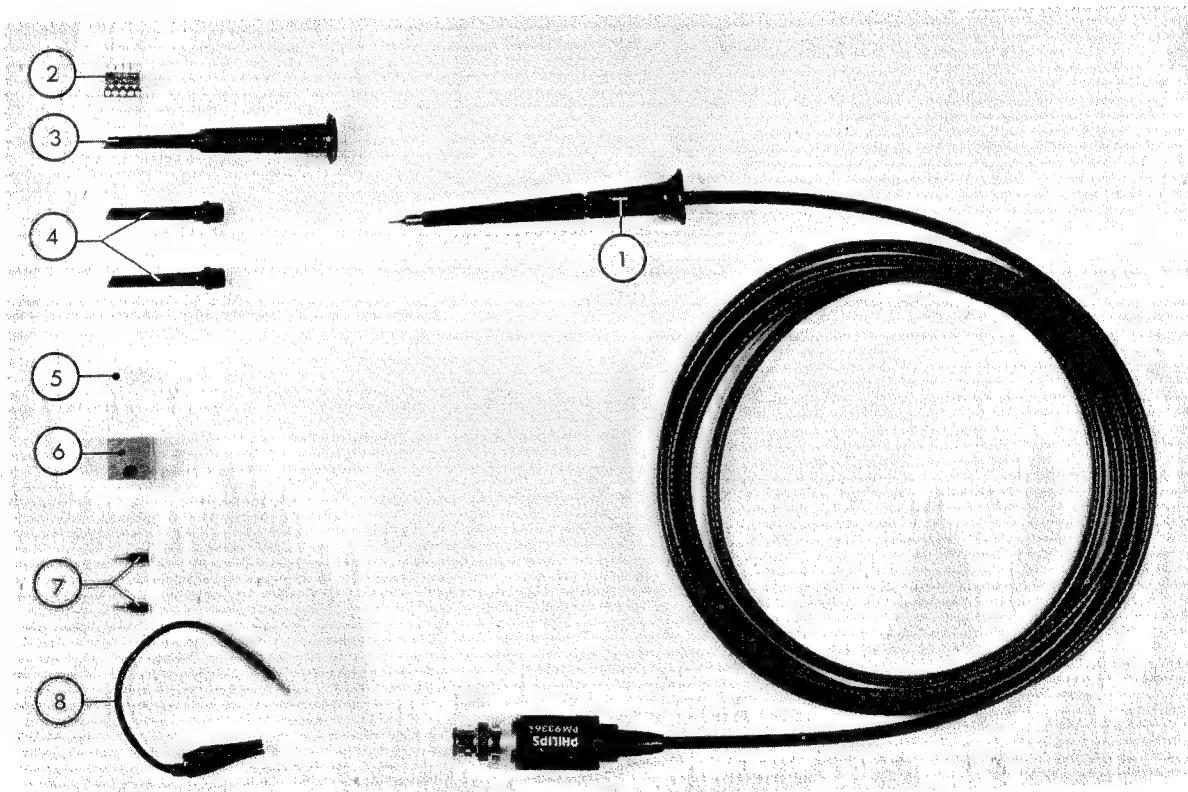

Fig. 3.26. Attenuator probe set PM 9336 (PM 9336L)
| 1 probe assembly | Fig. 3.26. item 1 |
| 5 soldering terminals | Fig. 3.26. item 2 |
| 1 test hook | Fig. 3.26. item 3 |
| 2 spare test hook sleeves | Fig. 3.26. item 4 |
| 1 protective cap | Fig. 3.26. item 5 |
| 1 probe holder | Fig. 3.26. item 6 |
| 2 probe tips | Fig. 3.26. item 7 |
| 1 earthing cord | Fig. 3.26. item 8 |
3.5.8. MULTI-PURPOSE CAMERA PM 9380 (Fig. 3.26.)